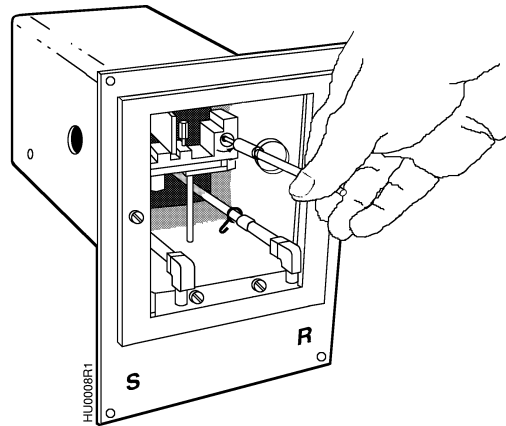

Figure 6. Hygrostat Calibration.
3. Remove cap plug on duct cover and insert calibration tool to make adjustments given in Step 4 above. See *Figure 6*.